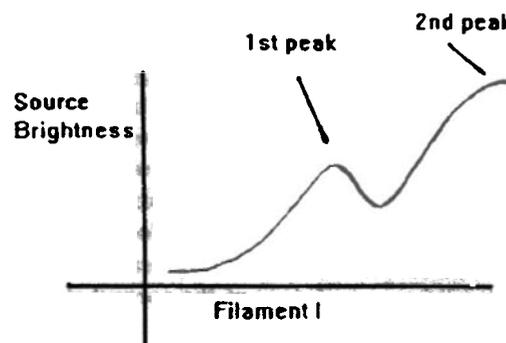

Figure 2.2 Second Peak
- Using the arrows at each end of the Filament current scroll-bar, adjust the filament current so that the profile **just** condenses down to an egg-shaped mass. This is the saturation point (or second peak see Figure 2.2) and usually occurs at about 2.75A for a new filament. If "first peak" operation is required, reduce the filament current to about 2.25A when a bright central emission image will be seen surrounded by an outer "halo". Operation at this point gives reduced resolution but much longer lifetime.